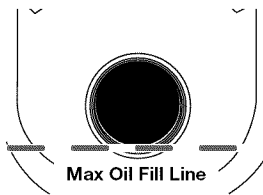

Fig. 22
5. Look into the oil fill hole, use a flashlight if needed. The oil should be just touching the innermost thread (Fig. 22).
6. If the oil level is not touching the innermost thread on the oil fill hole, add a small amount of oil to the oil fill hole and recheck (Fig. 22). Repeat this procedure until the oil level reaches the innermost thread on the oil fill hole.